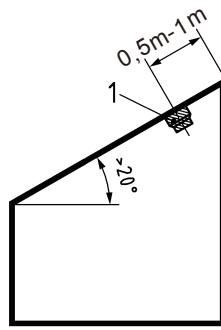
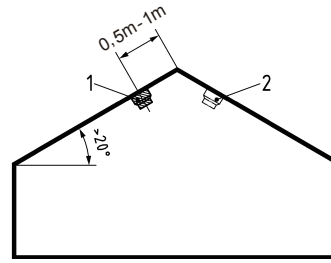
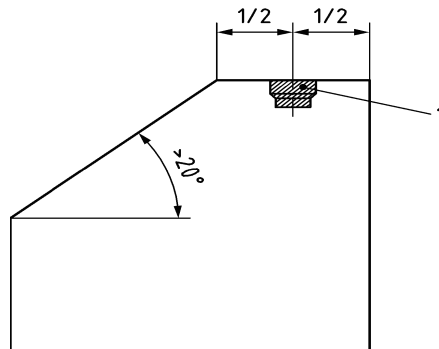

Figure 2 Mounting for ceiling with slope > 20°
Figure 3 Mounting for gabled ceiling with slope > 20°
Figure 4 Mounting in rooms with sloping ceiling and horizontal ceiling
- In dead air spaces, which are often at the top of a peaked roof or in apex of ceilings and walls. Dead air may prevent smoke from reaching a smoke alarm. See Fig. 2, Fig. 3, Fig. 4 and Fig. 5 for recommended mounting location.